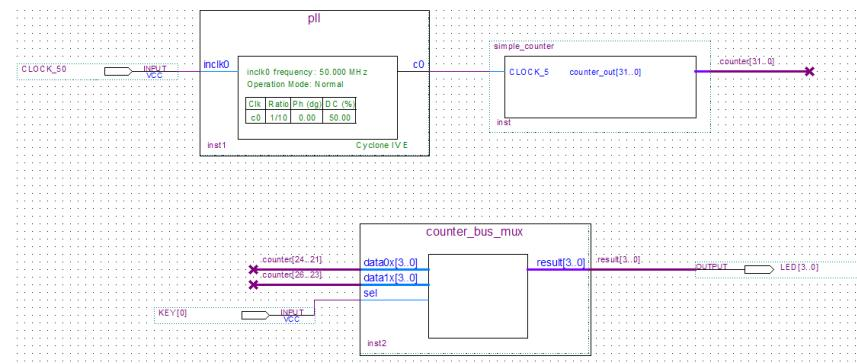

Figure 6-40 Adding the KEY [0] Input Pin
- Rename the input pin as KEY [0] (see **Figure 6-40**).